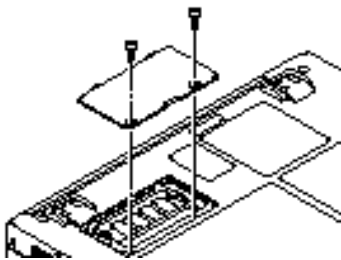

Figure 4-11 Opening the Memory Upgrade Compartment
4. Remove the screws at the front of the memory upgrade module compartment. (See Figure 4-11)
5. Remove the cover by tilting the front edge up and then pulling forward until the tabs on the cover are free. (See Figure 4-11.)